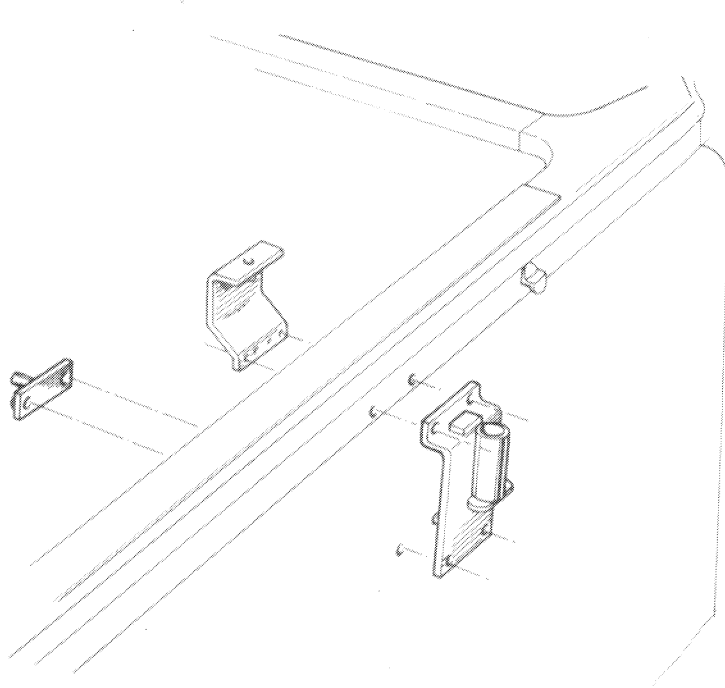

Fig. 10 Securing of bracket, support antenna: $\frac{3}{4}$ ton GS only
4. $\frac{3}{4}$ ton GS only: All the nuts, bolts and washers, together with plate, bushed (5975-99-637-0815) are stowed in a linen bag attached to support antenna (5985-99-637-0879). Using 2 off M8 x 25 bolts and washers and plate bushed (5975-99-637-0815) secure bracket, support antenna mounting (5985-99-637-0810) to the outside of the vehicle on the righthand side through the lower pair of holes, as in fig. 10. Pass the bolts through the vehicle side from the outside. Using 2 off M8 x 25 bolts, nuts and washers, secure bracket, stay equipment rack (5975-99-637-0812) to the inside of the vehicle through the upper pair of holes as in fig. 10. Pass the bolts through the vehicle side from the outside.